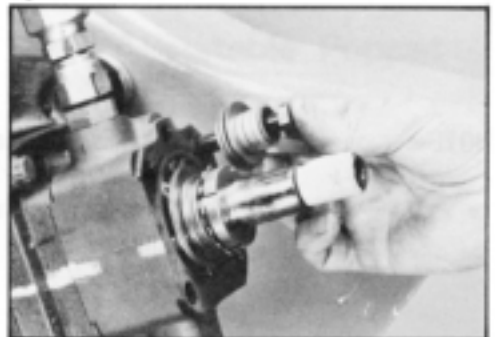

Figure 30
- 3.5 Reassemble one bolt (6) with a spacer or spacers about the width of the upper cover (7) bolt flange and torque bolt enough to hold assembled components in position. SEE FIGURE 30.